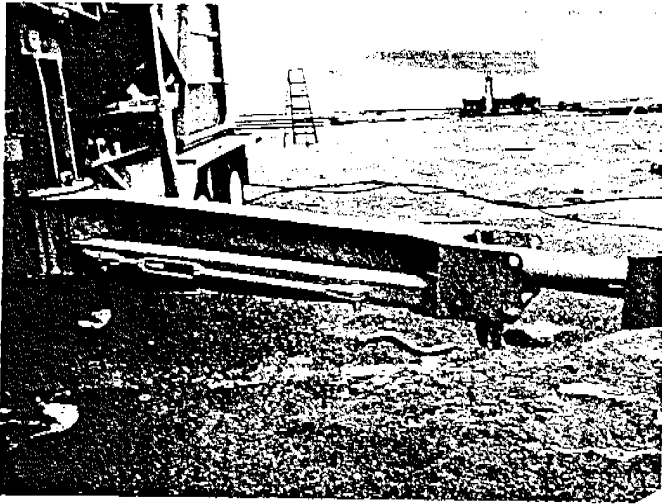
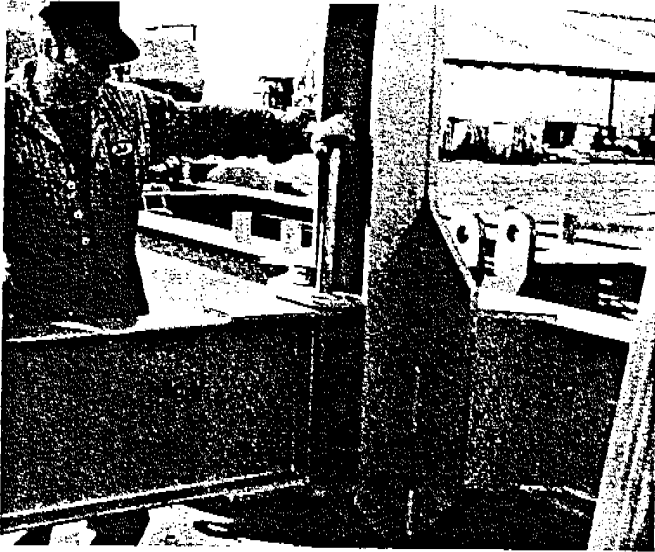

Fig. 8
Fig. 9
- Swing the trailer stabilizers out. (Fig. 8) PIN IN PLACE. (Fig. 9)